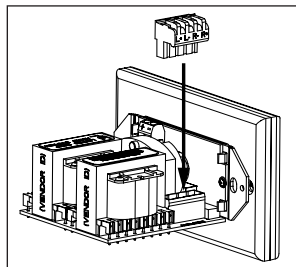

Figure 5
1. Locate the 4 pin speaker wire connector plugs (and remove them if they are plugged in). See **Figure 5**.
NOTE: Maintain proper phasing. Connect the positive terminals on the volume control to the positive terminals on the amplifier and speakers, and connect the negative terminals on the volume control to the negative terminals on the amplifier and speakers. To help you avoid improper phasing, the connector plug is keyed. Insert the smooth side of the connector plug into the smooth side of the socket. Don't force the scalloped side of the connector plug into the smooth side of the socket. See **Figure 5**.
7. Plug the connectors into the volume control as shown in **Figure 5**. The inputs of the IM volume control are the connector pins labeled AMPLIFIER. The outputs are the connector pins labeled SPEAKERS.